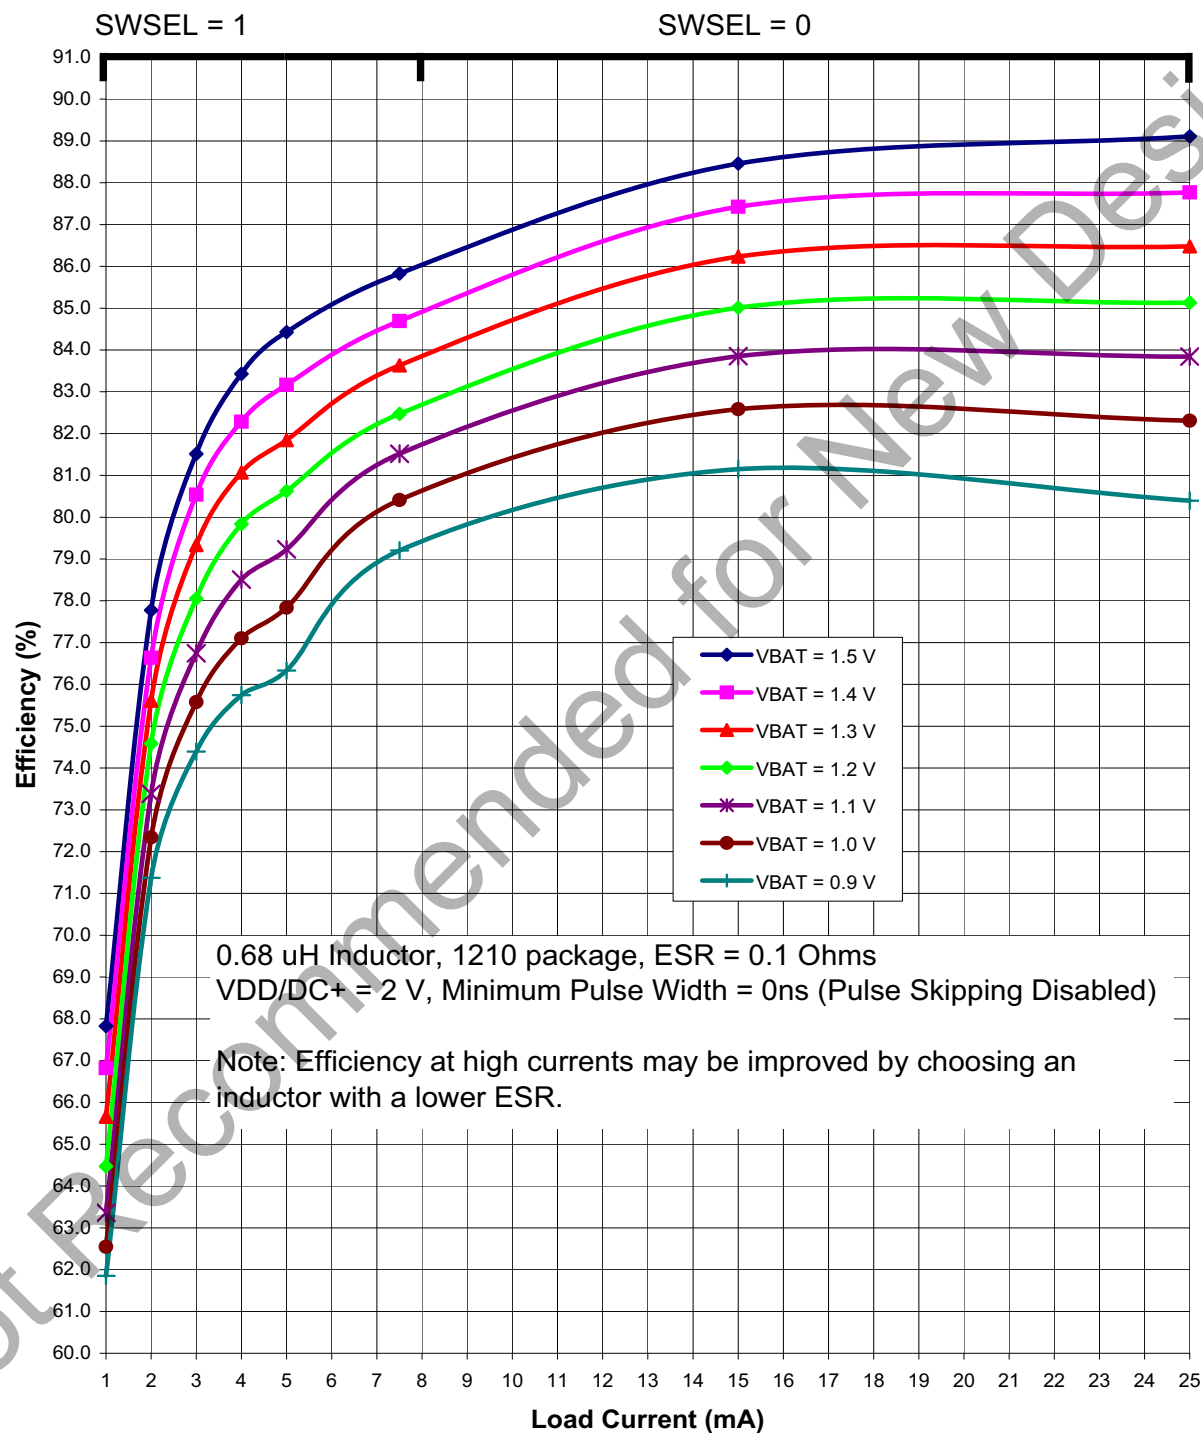
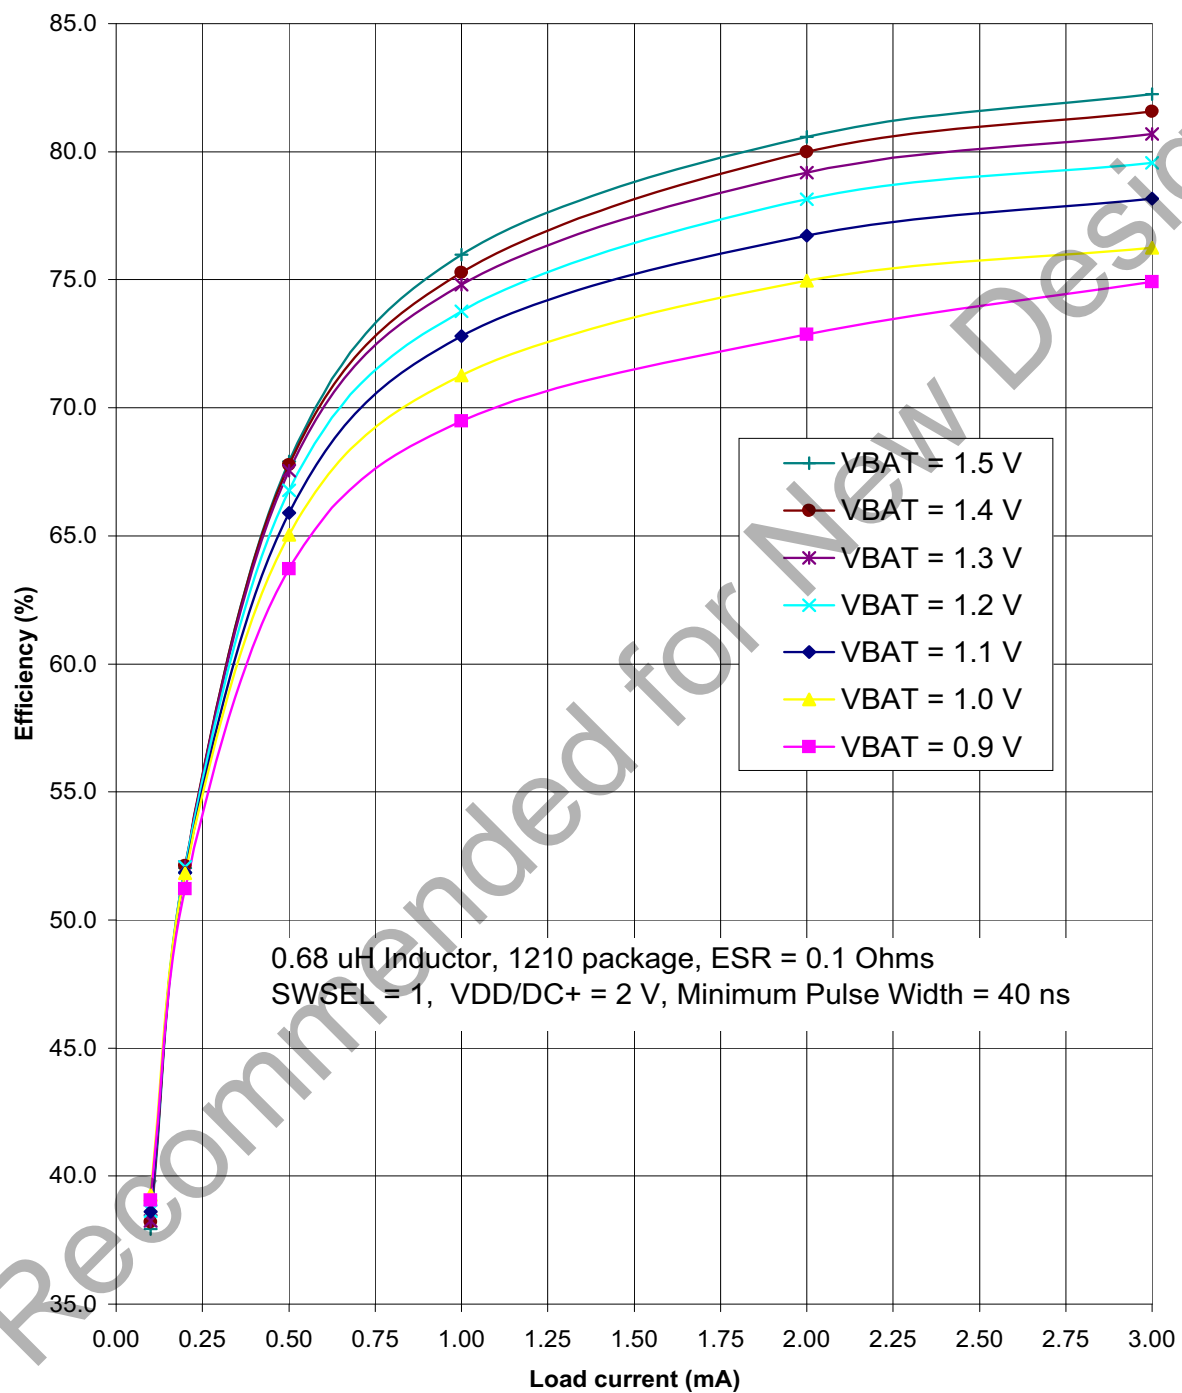

Figure 4.3. Typical DC-DC Converter Efficiency (High Current, VDD/DC+ = 2 V)
Figure 4.5. Typical DC-DC Converter Efficiency (Low Current, VDD/DC+ = 2 V)
Notes: - Based on device characterization data; Not production tested. - SYSCLK must be at least 32 kHz to enable debugging. - Digital Supply Current depends upon the particular code being executed. The values in this table are obtained with the CPU executing an "sjmp \$" loop, which is the compiled form of a while(1) loop in C. One iteration requires 3 CPU clock cycles, and the Flash memory is read on each cycle. The supply current will vary slightly based on the physical location of the sjmp instruction and the number of Flash address lines that toggle as a result. In the worst case, current can increase by up to 30% if the sjmp loop straddles a 64-byte Flash address boundary (e.g., 0x007F to 0x0080). Real-world code with larger loops and longer linear sequences will have few transitions across the 64-byte address boundaries. - Includes oscillator and regulator supply current. - ID_{DD} can be estimated for frequencies ≤14 MHz by simply multiplying the frequency of interest by the frequency sensitivity number for that range, then adding an offset of 90 µA. When using these numbers to estimate I_{DD} for >14 MHz, the estimate should be the current at 25 MHz minus the difference in current indicated by the frequency sensitivity number. For example: V_{DD} = 3.0 V; F = 20 MHz, I_{DD} = 4 mA – (25 MHz – 20 MHz) x 0.102 mA/MHz = 3.5 mA assuming the same oscillator setting. - The supply current specifications in Table 4.2 are for two cell mode. The VBAT current in one-cell mode can be estimated using the following equation: $\text{VBAT Current (one-cell mode)} = \frac{\text{Supply Voltage} \times \text{Supply Current (two-cell mode)}}{\text{DC-DC Converter Efficiency} \times \text{VBAT Voltage}}$ The VBAT Voltage is the voltage at the VBAT pin, typically 0.9 to 1.8 V. The Supply Current (two-cell mode) is the data sheet specification for supply current. The Supply Voltage is the voltage at the VDD/DC+ pin, typically 1.8 to 3.3 V (default = 1.9 V). The DC-DC Converter Efficiency can be estimated using Figure 4.3–Figure 4.5. - Idle ID_{DD} can be estimated by taking the current at 25 MHz minus the difference in current indicated by the frequency sensitivity number. For example: V_{DD} = 3.0 V; F = 5 MHz, Idle I_{DD} = 2.1 mA – (25 MHz – 5 MHz) x 0.079 mA/MHz = 0.52 mA.